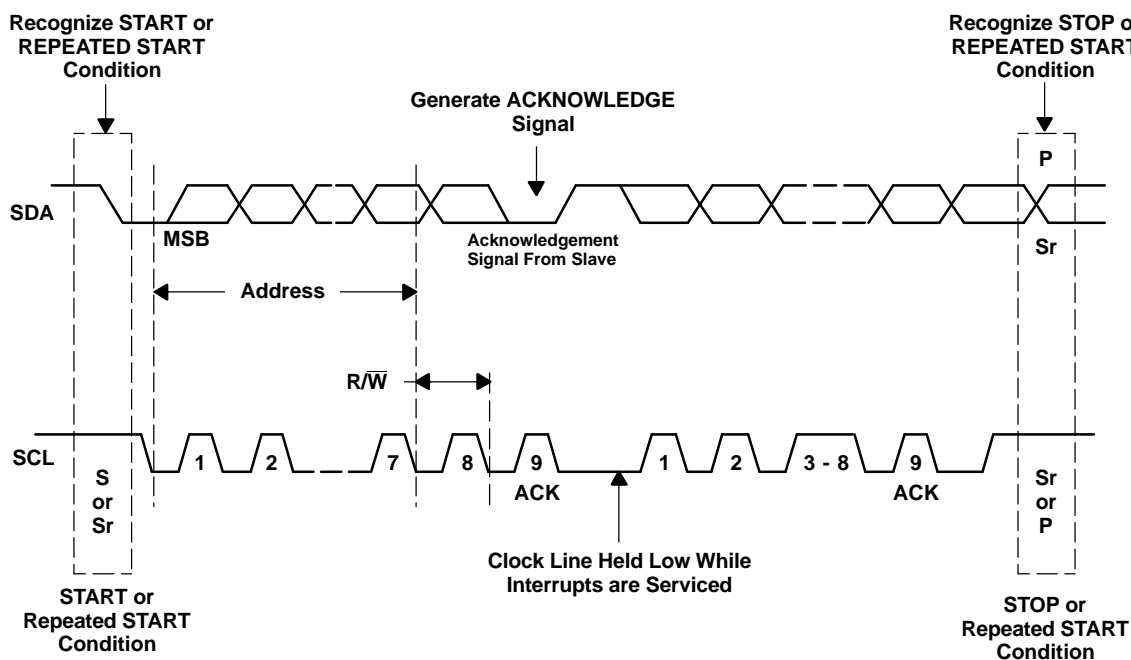

Figure 44. Bus Protocol
- When all data bits have been written, a *Stop* condition is established (see Figure 44). In writing to the DAC7571, the master must pull the SDA line high during the tenth clock pulse to establish a *Stop* condition.